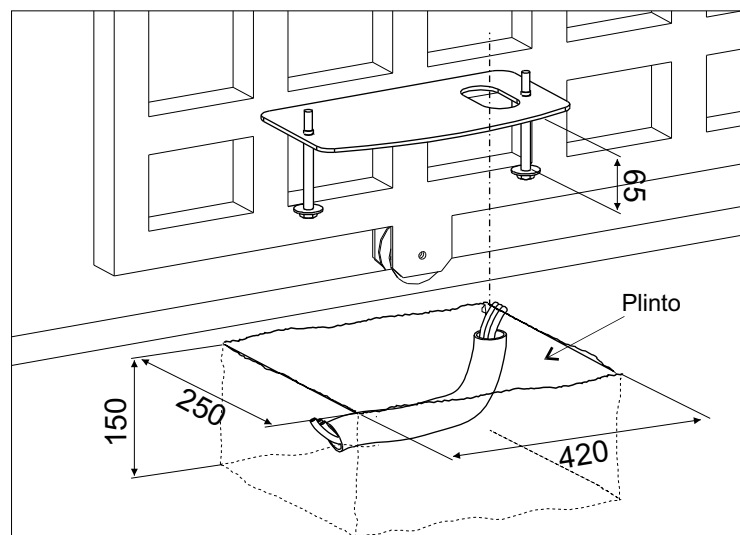

Fig. 1
**2.1.** Prepare a concret basement with the dimensions shown in Fig. 1 where the foundation plate and the anchor bolts will be concreted.